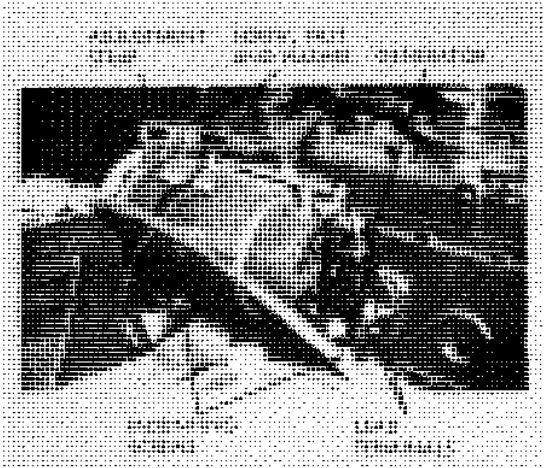

Figure 5-6. Generator, Installed
- Disconnect and tag leads at generator lead terminals. (See figure 5-6).